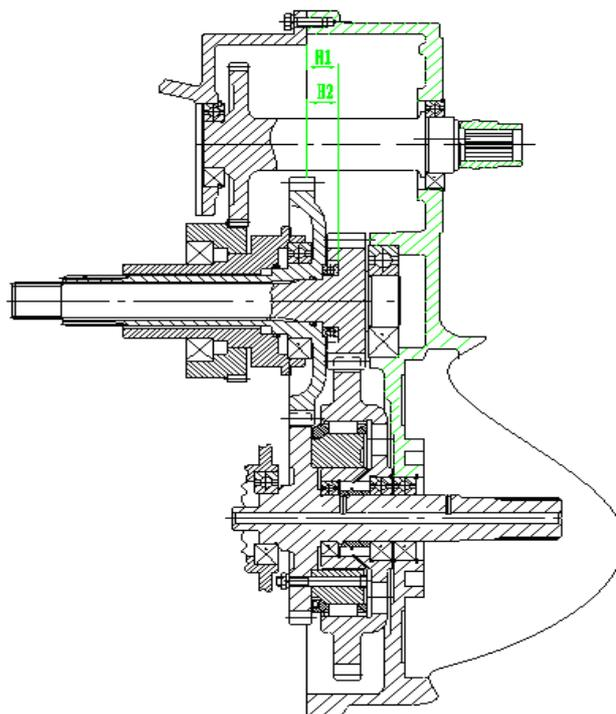

Figure 5
between the transmission body (1) and the torque converter assembly (7) to make sure the axial clearance of bearing 5111 is 0.3~0.7. (Refer to Figure 5)